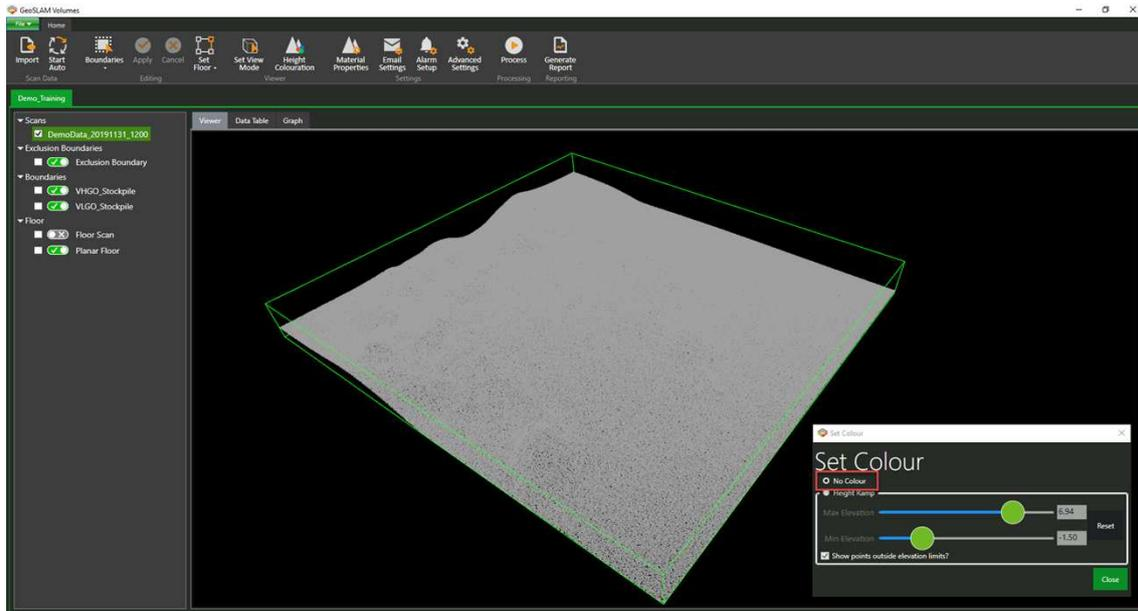

Figure 80. Data displayed as a single colour with no shader applied.
3. *Select* -> **No Colour**, to view the data using a single colour (Figure 80).